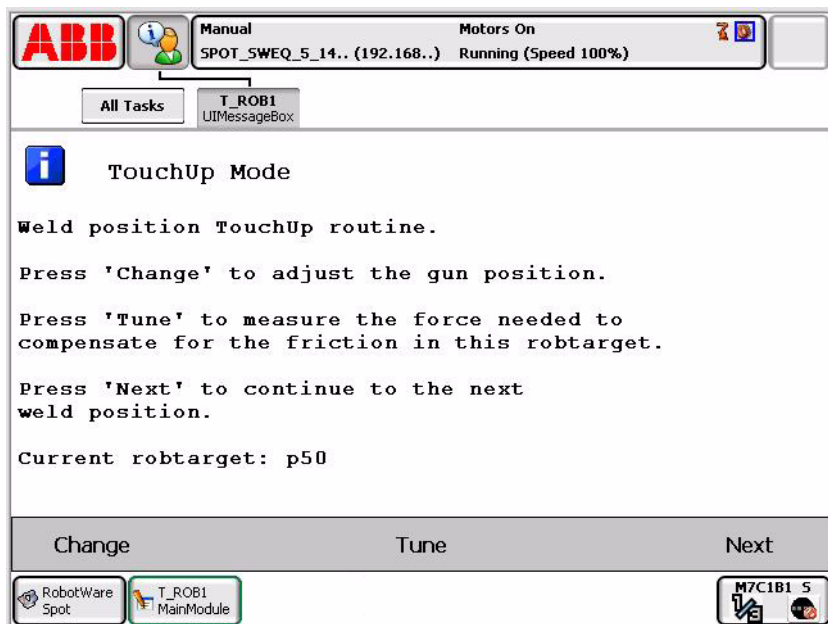

Figure 17 Force offset tuning touch up 1
It is also possible to tune the *force_offset* by activating the *Weld position Touch Up* mode (sim_type = 3). If SoftMove Equalizing is active in a SpotL/J instruction, an additional button will be visible on the FlexPendant, see figure 17 and 18 below.
- Updates the current smeqdata with the measured value and goes back to the Touch Up dialog, see figure 17 above.